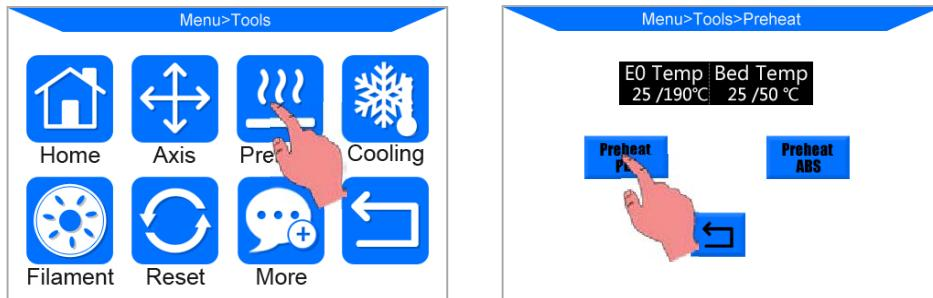

Figure 29
1. As shown below, click “Tools”-->“Preheat” --> “Preheat PLA (for example)” **Fig.29**.